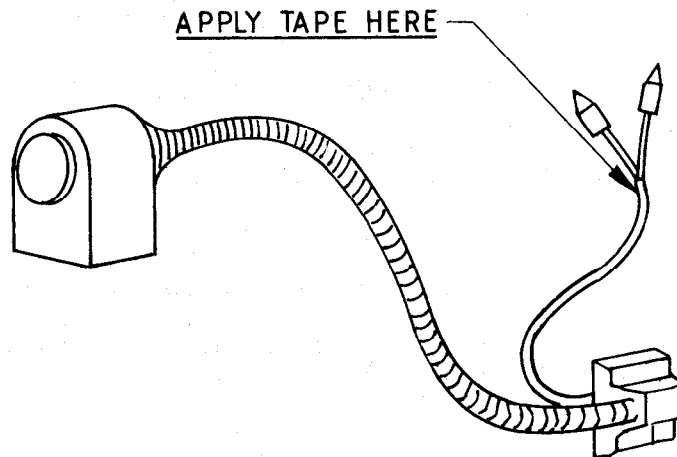

FIG 2 - MAPLIGHT WIRING
- c. Fit the new clip (item 1 from Table 1) using the original mounting screws and plug the existing hole with a screw (item 2 from Table 1).
- d. Ensure that a sleeve is fitted over the maplight wiring, see Fig 2, and that the sleeve is located in the hole in the dash.
- e. If the sleeve is located in the dash then apply insulation tape at the point shown in Fig 2.
- h. If chafing is evident repair the wiring and fit the sleeve (item 3 from Table 1) over and secure as shown in Fig 2.